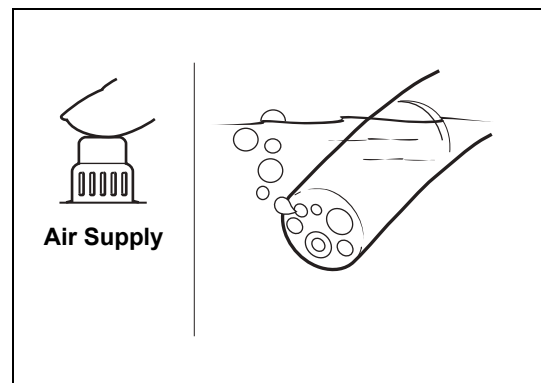

Figure 4.5
- 4 Air/water is supplied through the endoscope. If you insert the distal end of the endoscope into water and gently cover the air hole on the air/water feeding valve, air will come out of the distal end of the endoscope. You can confirm the air supply by checking whether air bubbles are generated. (Refer to Figure 4.5.)